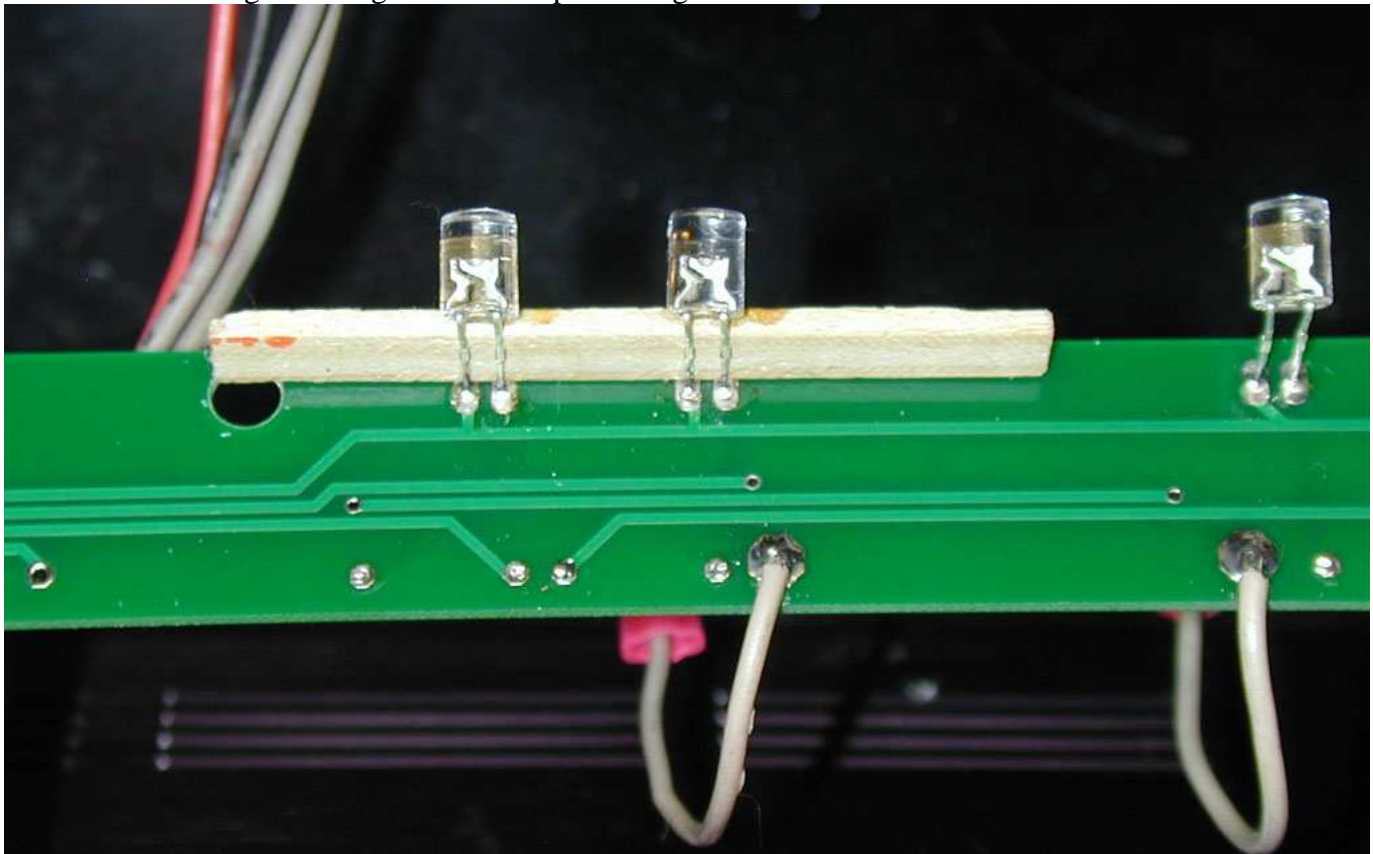

Figure 7 LED spacing at $3/16''$ using wooden shim (note alternate LED part numbers may appear visually different than pictured above)
housing does not have this flat section, the cathode lead length is denoted by the shorter of the 2 leads coming out of the LED (see detail in Figure 6). Bend all 8 LEDs in the same direction as shown in Figure 6. The board silkscreen is printed so that it shows this flat. Make sure you install the LEDs with the correct polarity or the light board will not work and you may damage the LEDs or your amplifier, the short cathode lead or flat on the LED body must be oriented to align with the flat silkscreened onto the PCB artwork. Also ensure that you install the LEDs so they point (shine) in the proper direction. The board is asymmetrical with respect to the mounting holes for the board. Look carefully at Figure 7, 8 and 9 for proper orientation. All 8 LEDs should point away from (off) the edge of the board.
9. Carefully solder each LED to the board as shown in the Figure 7 and 8. Space the plastic body of each LED $3/16''$ off the face of the board using the wooden shim supplied in the kit. This will position the LEDs properly to the proper depth to fit inside the meters. Check the polarity of each LED before you solder it into place, aligning the flat (or short lead) on the LED plastic body with the flat silkscreen imprint on the PC board silkscreen. After soldering, clip the excess lead length leaving about $1/16''$ protruding from the PC board surface.